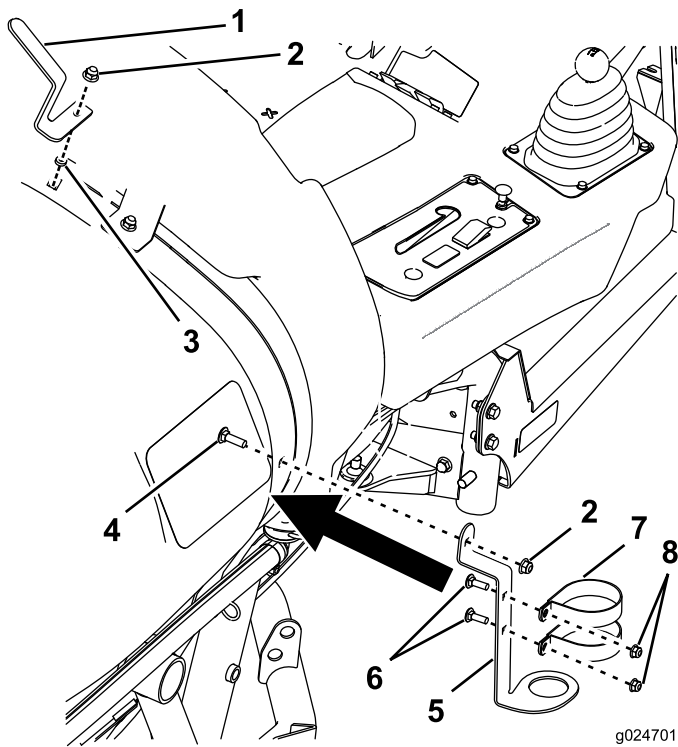

Figure 3
3. Install the spray gun bracket and the house mount (Figure 3).